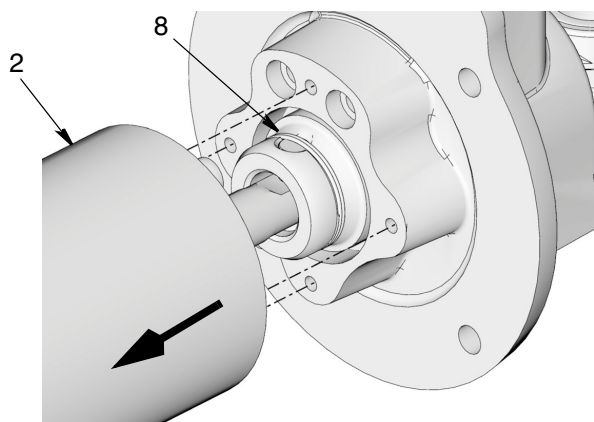

FIG. 23
10. Pull pump adapter (2) down to access retaining spring (8) (FIG. 23).